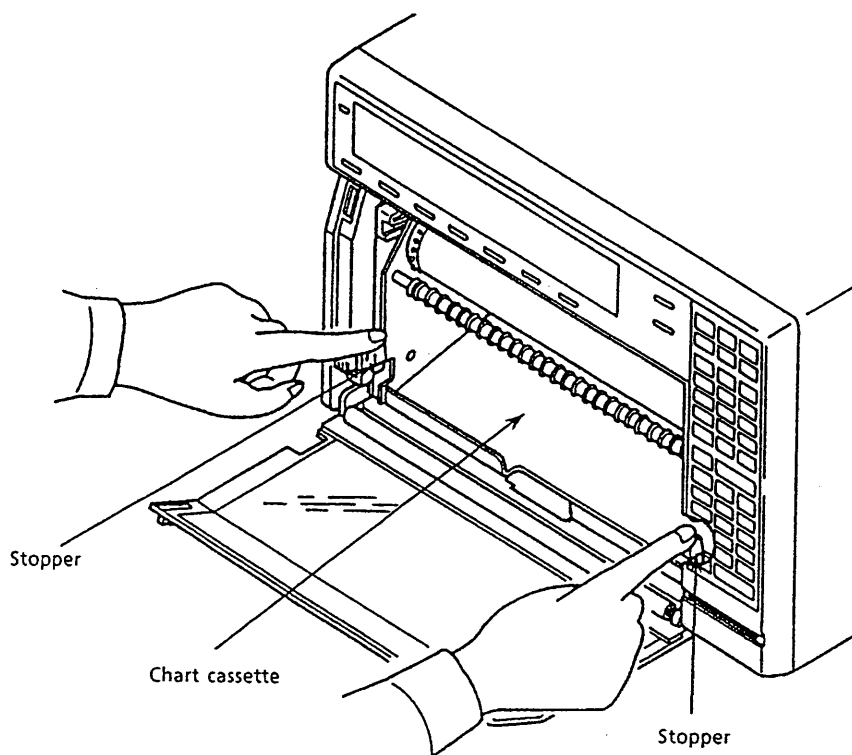

Figure 1.4
- (1) Opening the door exposes the "stopper" latches on each side at the bottom of the chart cassette (see Figure 1.4).
- (2) When the two stopper latches are pressed down, the chart cassette will swing out toward you.